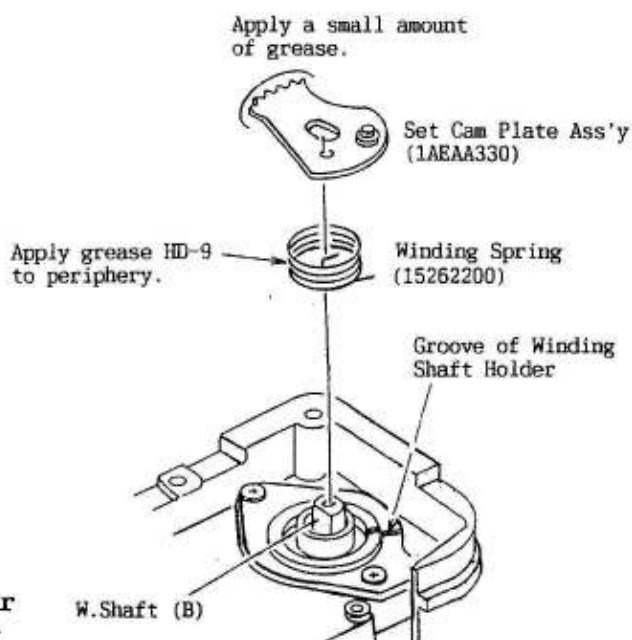

Fig.24
- 12) In the position as shown in Fig.24, fit the Set Cam Plate Ass'y (1AEAA330) gently on the W.Shaft (B).